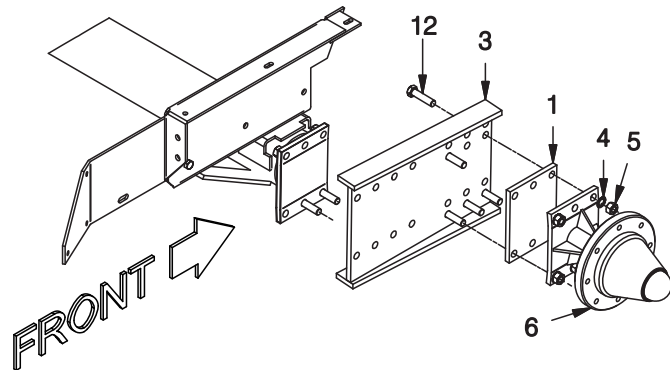

Figure 2 - Mounting Wheel Extension, Spacer and Hub
B. Place (5) R13807958 Bolts onto the MNT0030914 Wheel Extension as shown in Figure 2. Place (1) F000007636 Spacer Plate and (1) F000008003 Hub on to the wheel extension as shown in Figure 2. Torque all nuts and bolts as per torque chart on page 1.